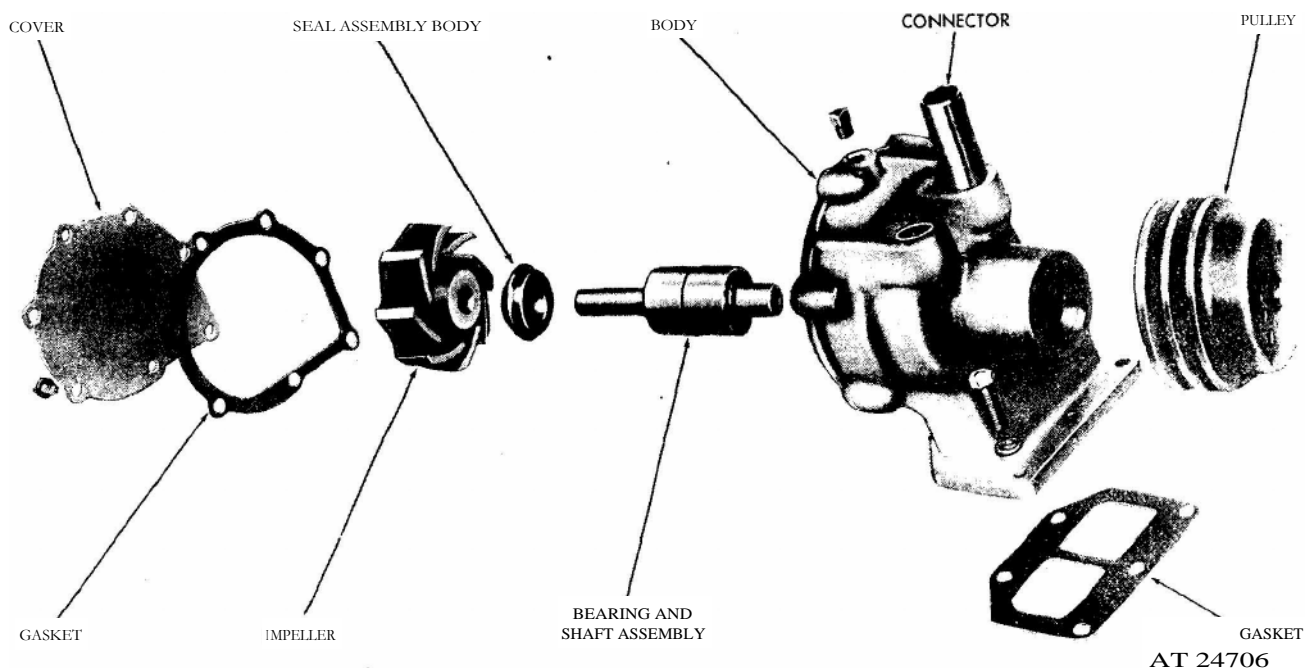

Figure 6. Fresh water pump details and relative location of parts.
2. Remove pump cover and gasket (fig. 6).